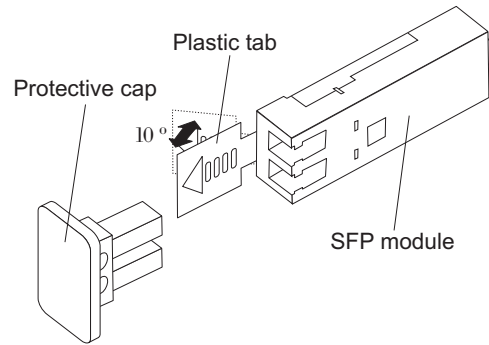

Figure 28. Unlocking the SFP module latch - plastic variety
- For SFP modules that contain plastic tabs, unlock the SFP module latch by pulling the plastic tab outward 10°, as shown in Figure 28 on page 53.